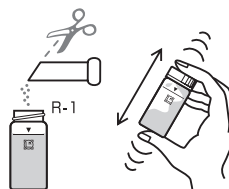

Fig.2
2. Add R-1 Reagent of LR-NO₂ into the cell, cap the cell tightly and immediately shake the cell strongly for 10 sec. (Fig.2)